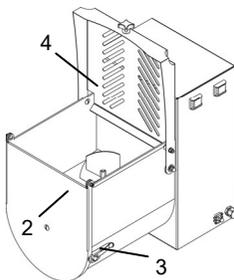

Fig. 6.4.2
- Once the blade has been mounted lower the front cover "2" Fig. 6.4.2 and secure in place by closing the buckle "3" Fig. 6.4.2
- Lower the top grille "4" Fig. 6.4.2